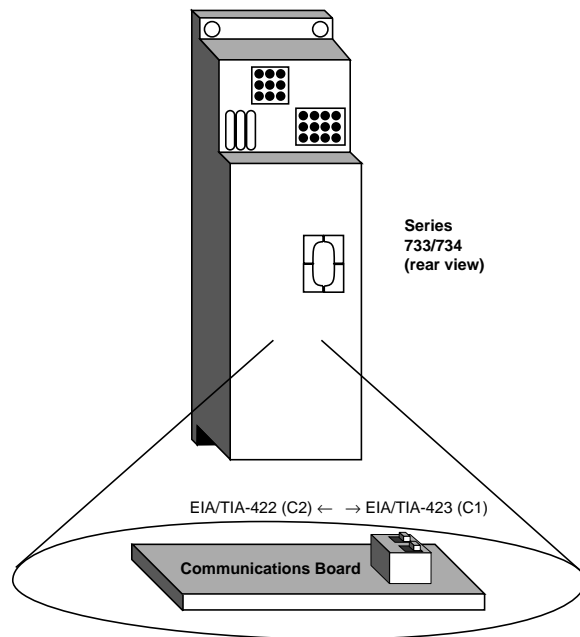

Figure 4 - Internal EIA/TIA-422 & EIA/TIA-423 Switch Location and Selection.
The EIA/TIA-422 or EIA/TIA-423 switches are on the Communication Module Board (A007-1830) inside the control. Figure 4 shows the approximate location of this board. Select C1 on both switches for EIA/TIA-423, or C2 on both switches for EIA/TIA-422 operation. **Both switches must be set to the same position.**
- 3) Remove the rear cover and locate the switches. See Figure 4.